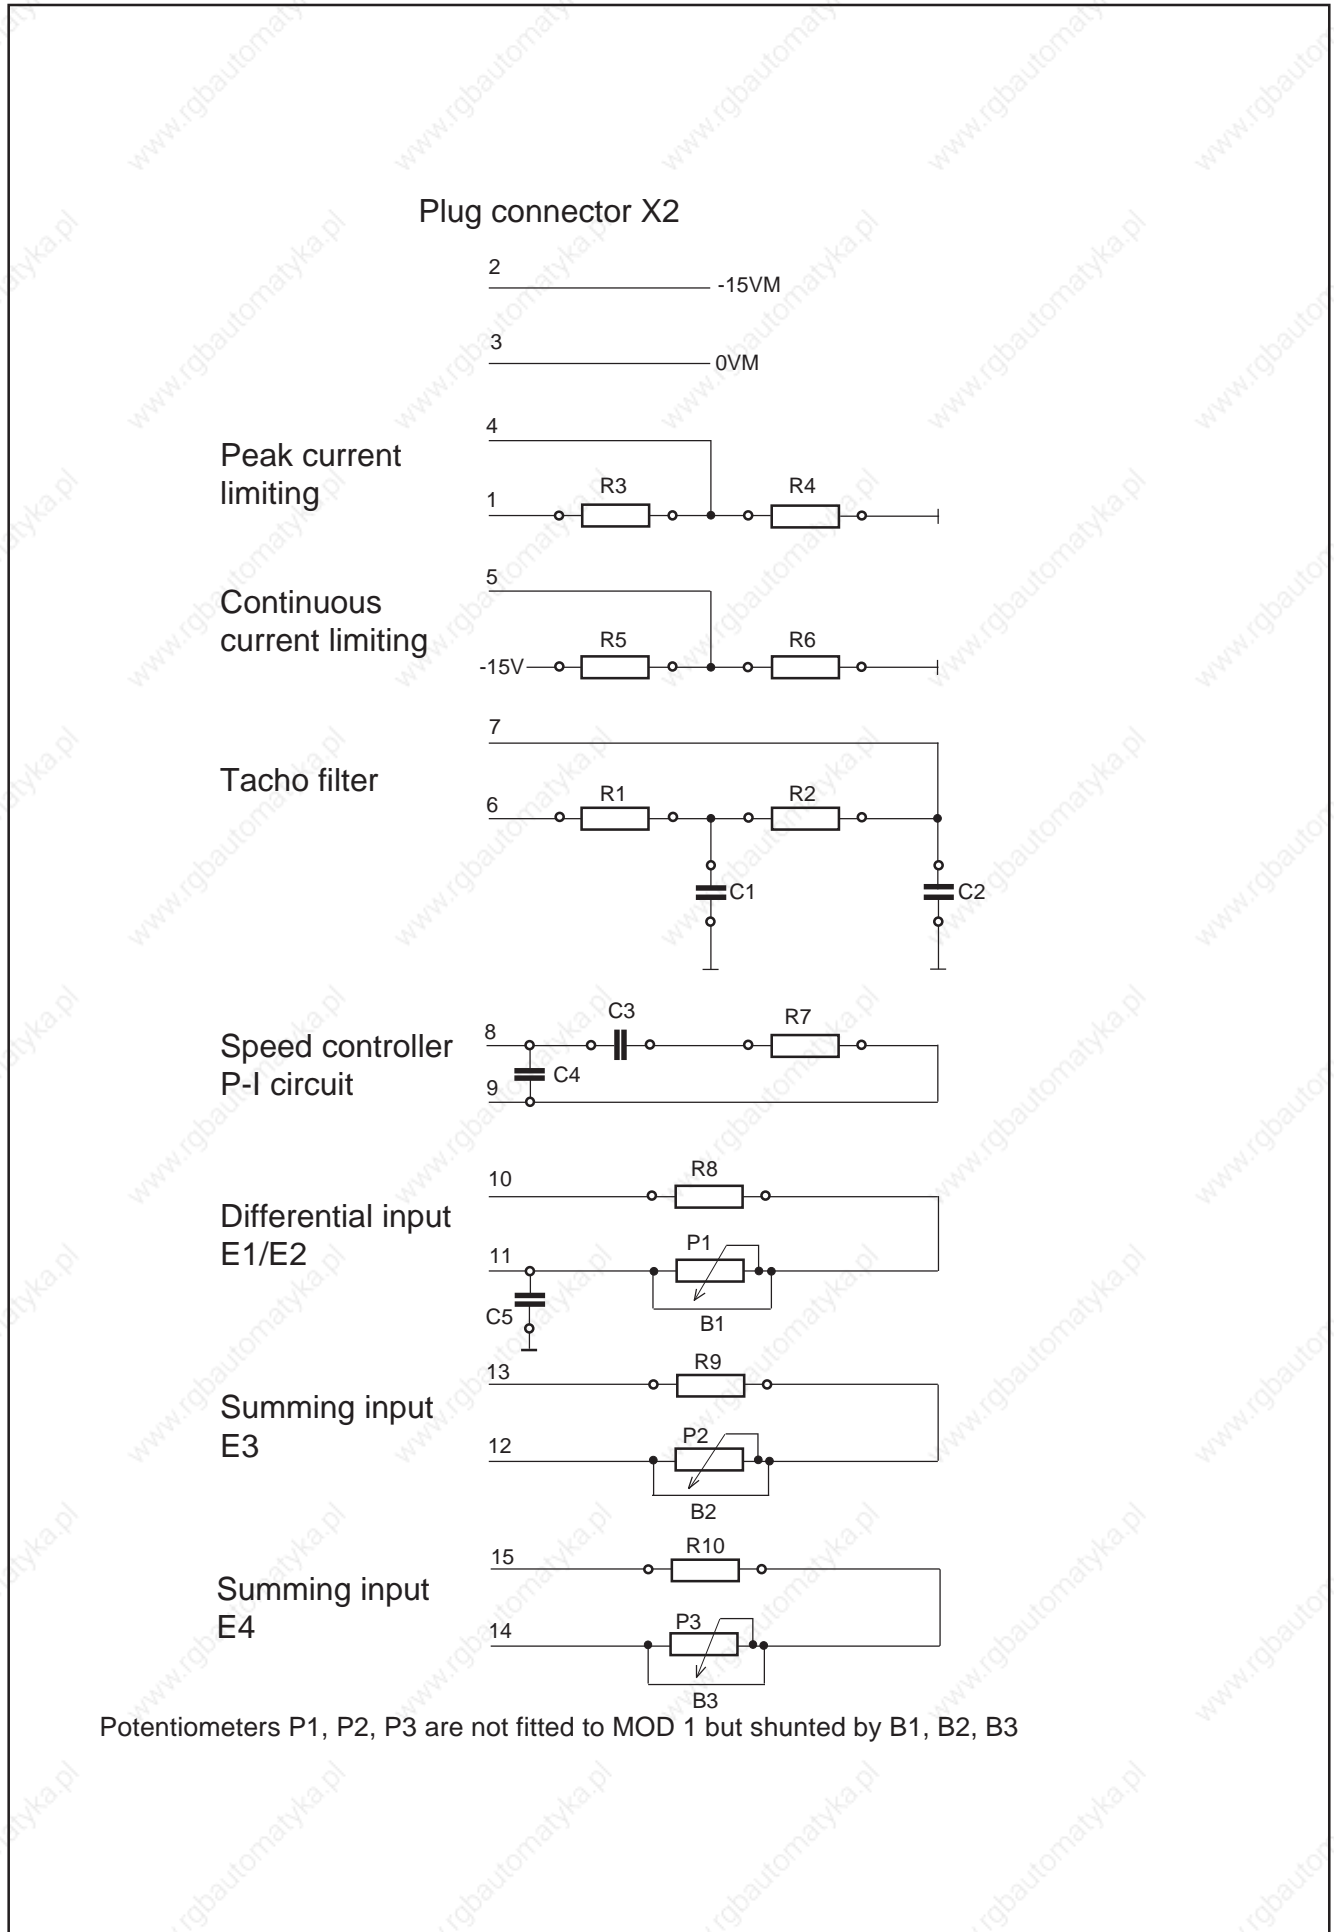

Fig. 22: Circuit diagram: MOD 1, MOD 2 for TDM 1 drive module
- Fig. 22 Circuit diagram: MOD 1, MOD 2 for TDM 1 drive module